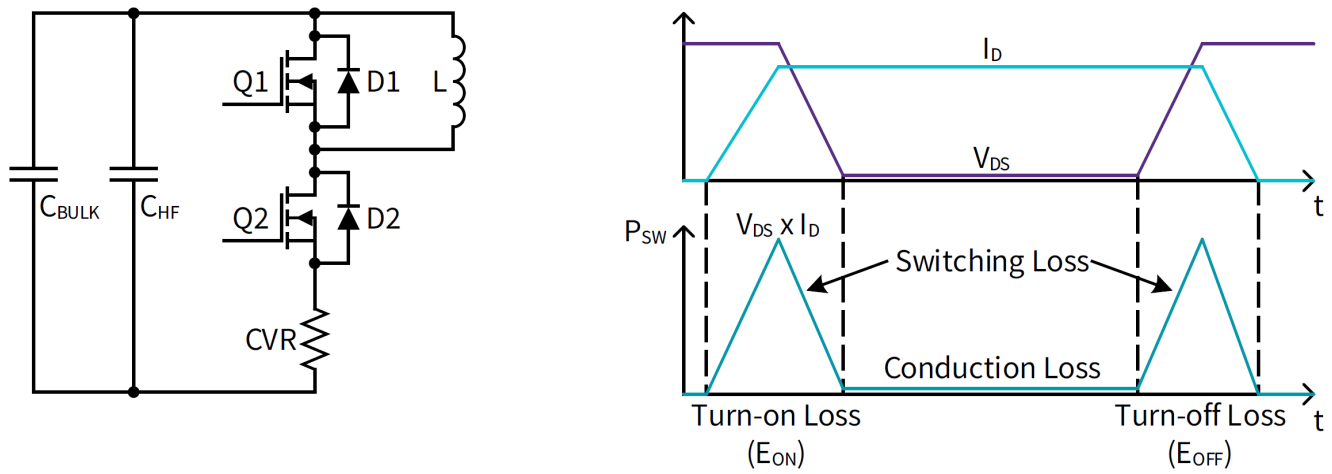
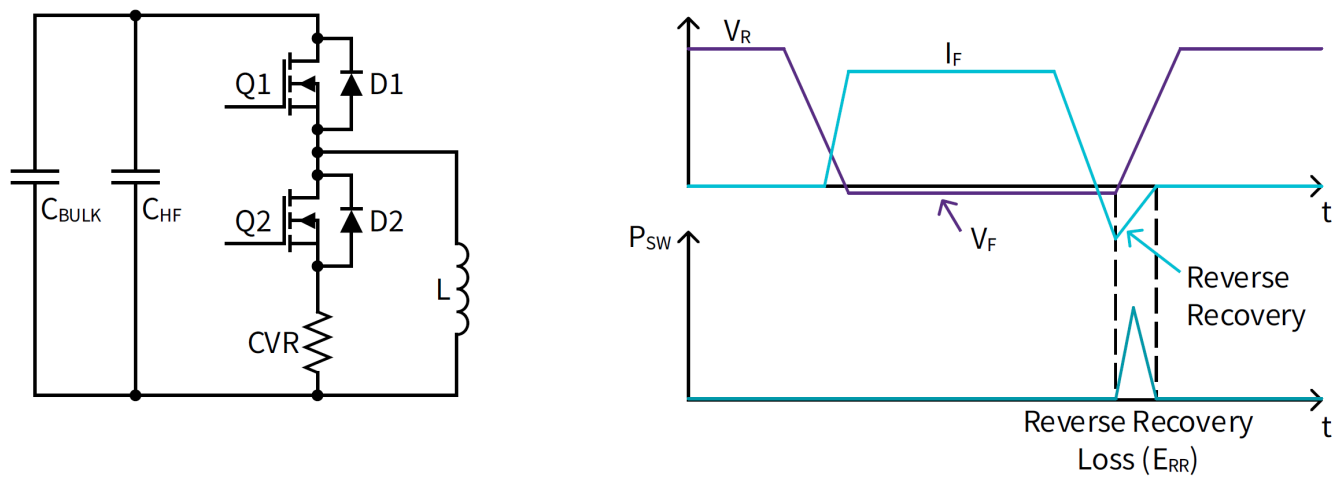

FIGURE 2: CIL TEST FIXTURE USED TO MEASURE THE SWITCHING LOSS OF MOSFET Q2 (LOW-SIDE)
FIGURE 3: CIL TEST FIXTURE USED TO MEASURE THE SWITCHING LOSS OF ANTIPARALLEL DIODE D2¹
There are two types of switching events: actively switched (MOSFET) and forced commutation (antiparallel diode). The test fixtures to measure both events are given below in Figure 2 and Figure 3, respectively. Q1 and Q2 represent the respective switch positions of the Wolfspeed BM half-bridge power module. Likewise, D1 and D2 represent the antiparallel diodes of each switch position (the intrinsic body diode or external Schottky Diode depending on the module variant). For both tests, film capacitors (C_{BULK}) are used for bulk energy storage to provide the needed energy transfer to the inductor (L) for the switching event, while high-frequency capacitors (C_{HF}) are used to provide a low-inductance switching loop. For MOSFET switching measurements in Figure 2, the inductor is connected across the upper switch position of the module from the midpoint to the positive bus rail while Q1 is held off and Q2 is pulsed; for diode switching measurements in Figure 3, the inductor is connected across the lower switch position of the module to the negative bus rail while Q1 is pulsed and Q2 is held off.